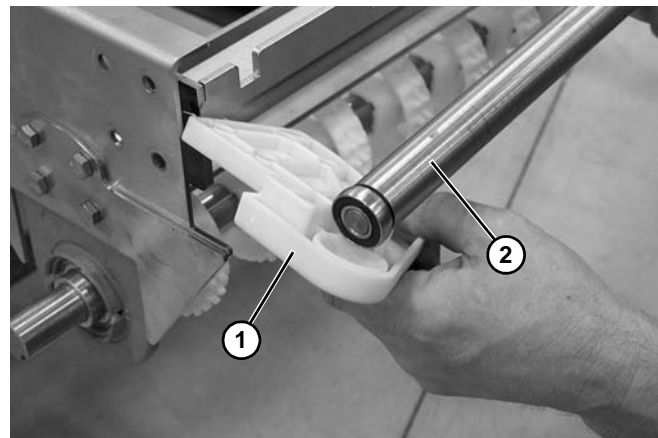

Figure 54
4. Remove headplate (**Figure 54, item 1**) and spindle assembly (**Figure 54, item 2**).